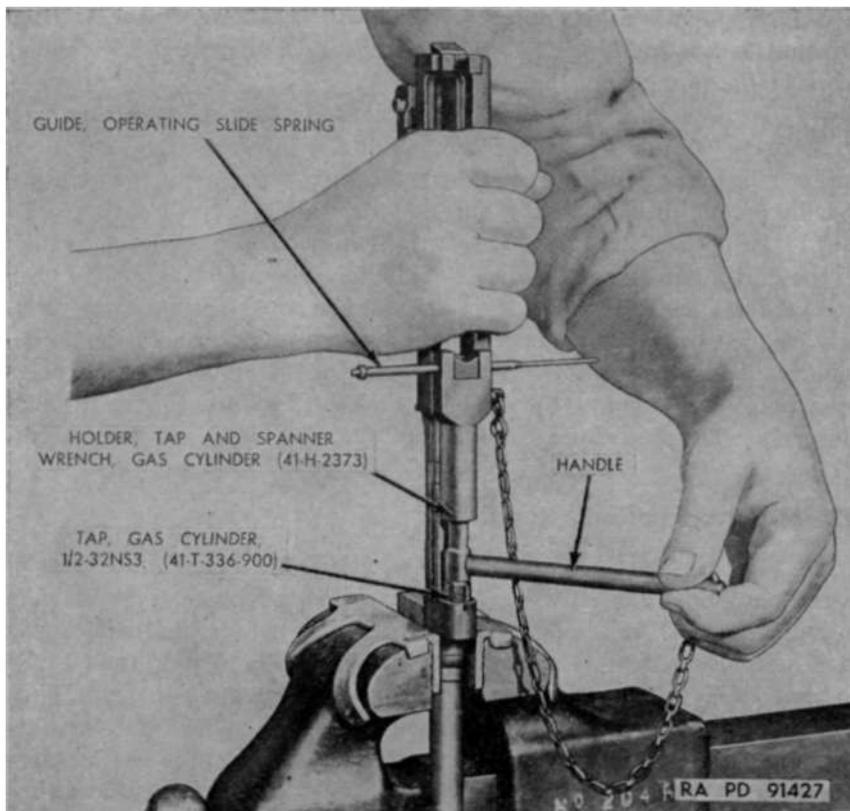

Figure 51. Chasing gas cylinder thread.
(2) *Chasing gas cylinder threads.* Chase threads of the gas cylinder, using gas cylinder tap, $1/2$ -32NS3 (41-T-336-900). (See fig. 51.) Dip tap in a suitable cutting oil and start tap carefully in gas cylinder. Cut threads a little at a time, using a forward and backward movement. Exercise care to stop tap as soon as it touches bottom to prevent damaging tap or cylinder. Remove tap and thoroughly clean chamber.
b. CARBON AND RUST. (1) *Carbon.* Because of the rearward position of the gas port and high gas pressure encountered there, excessive carbonization of cylinder and piston is unlikely. However, these parts